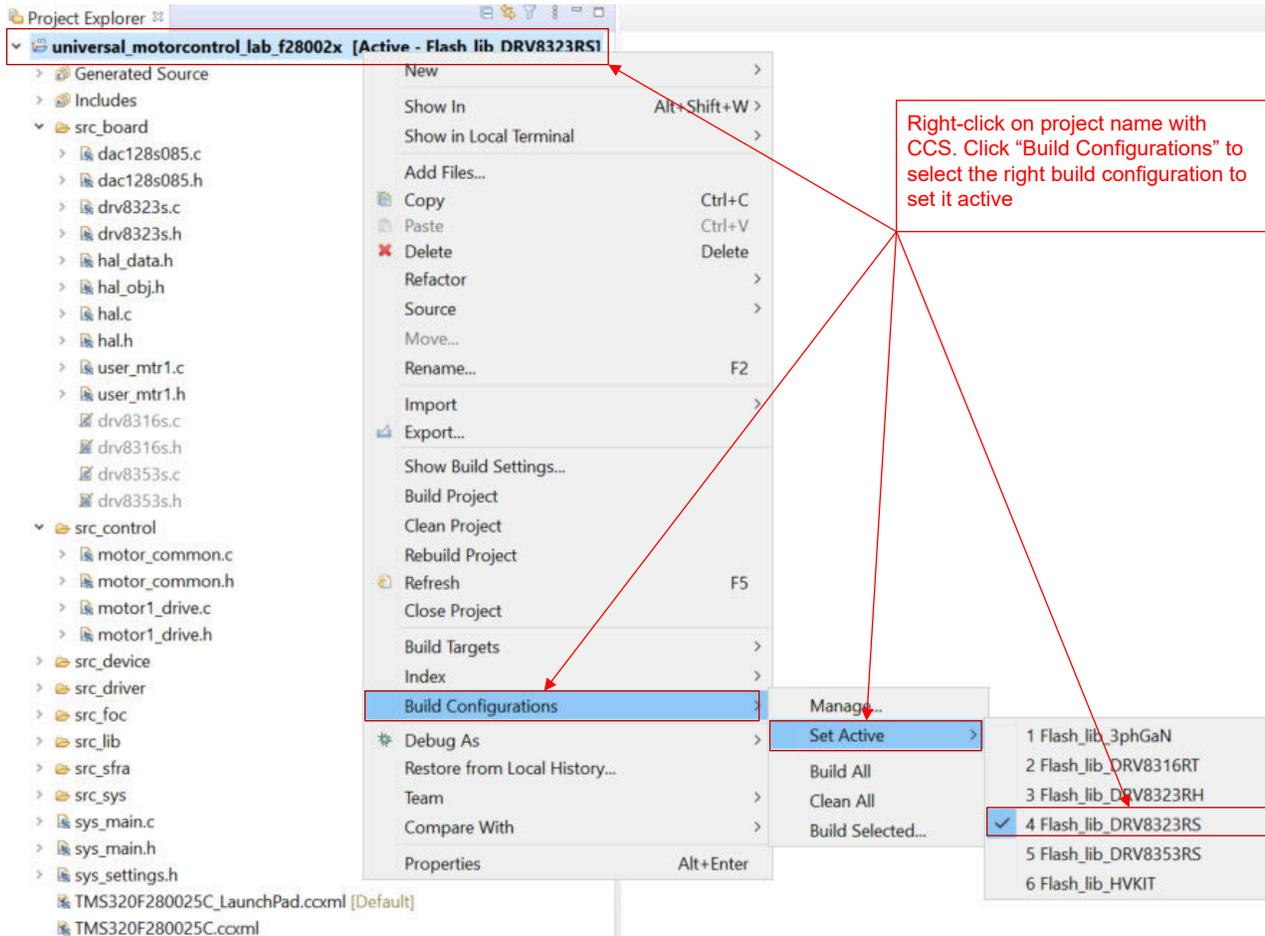

Figure 3-18. Select the Right Build Configurations within CCS
2. The lab project can be configured to run on a variety of motor driver kits. You can select one of these kits by right-clicking on the imported project name and selecting the right build configuration (such as **Flash_lib_DRV8323RS_3SC**) as shown in Figure 3-18.